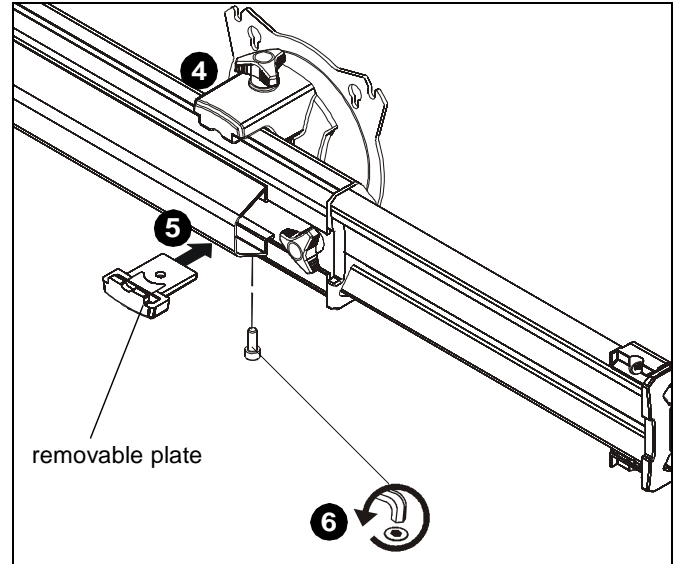

Figure 15
NOTE: Faceplate assemblies may be reattached on the fixed part of the arm. (See Figure 15)
4. Place faceplate assembly on array arm at desired mounting position. (See Figure 15)
5. Slide removable plate back into slot at bottom of faceplate assembly. (See Figure 15)
6. Reinstall hex head bolt removed in Step 1 to secure faceplate assembly to array arm. (See Figure 15)